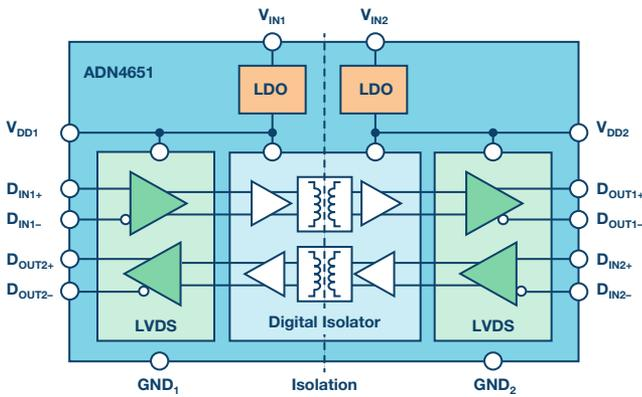
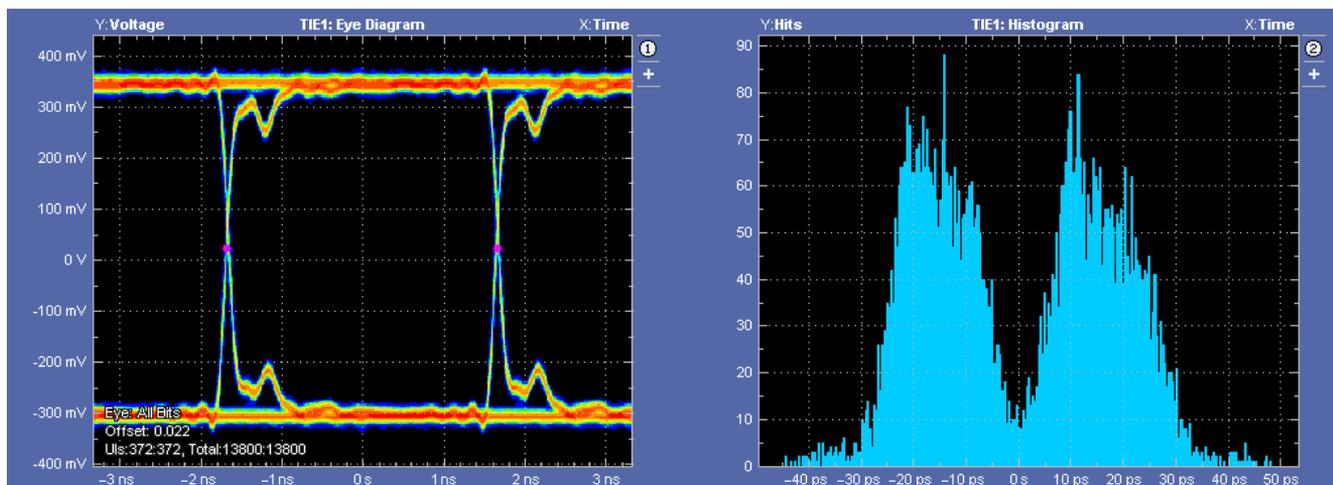

Figure 2. ADN4651 600 Mbps LVDS isolator block diagram.
Figure 3. Eye diagram and histogram for ADN4651.
By contrast, as shown in Figure 2, Analog Devices has introduced a family of drop-in LVDS isolators: ADN4650/ADN4651/ADN4652, using *iCoupler*® technology enhanced for operation up to 600 Mbps. In addition to TIA/EIA-644-A LVDS compliant I/O, the complete isolator signal chain is fully differential, realizing a high immunity and low emissions solution. Two isolated LVDS channels are provided, one transmit and one receive (ADN4651, or vice versa for ADN4652) or two transmit or receive (ADN4650). The internal high speed circuits operate at 2.5 V, which may not be present in industrial systems as a power rail, so internal low drop-out regulators (LDOs) are provided (as shown in Figure 3) to allow a single wide-body SOIC solution even when powering from 3.3 V supplies.
and low-to-high transitions are superimposed, allowing measurement of the crossover point. The width of the crossover corresponds to the peak-to-peak jitter or time interval error (TIE) measured so far (compare the eye diagram and histogram shown in Figure 3). Some jitter is due to random sources (like thermal noise) and this random jitter (RJ) means that the peak-to-peak jitter seen on the oscilloscope is limited by the run time; the tails on the histogram will grow as the run time increases.
By contrast, sources of deterministic jitter (DJ) are bounded, such as jitter due to pulse skew, data rate dependant jitter (DDJ), and intersymbol interference (ISI). Pulse skew arises due to a difference between high-to-low and low-to-high propagation delays. This is visualized by an offset crossover such that at 0 V, the two edges are separated (easily seen by the separation in the histogram in Figure 3). DDJ arises from a difference in propagation delay across operating frequency, while ISI arises due to the influence of previous transition frequencies on the current transition (edge timing will typically be different after a train of 1 sec or 0 sec vs. a 1010 pattern).